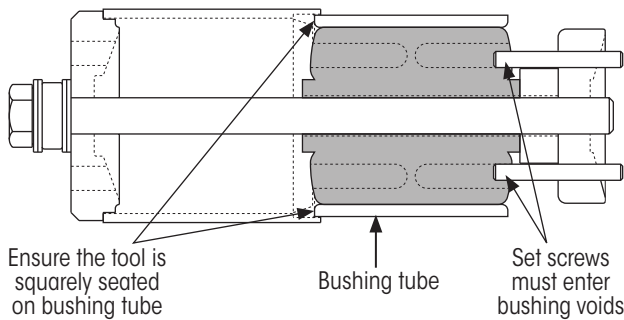

Figure 23: Ensure tool is square to bushing tube
- 10. **Thread** the rear drive plate (flat side first, Figure 21) onto the hex head bolt (Figure 23). If using the wide bushing tool, the two set screws must enter the bushing voids (open areas) to prevent the rear drive plate from turning.
- 12. **Ensure** tool rests squarely on the bushing tube (Figure 23).